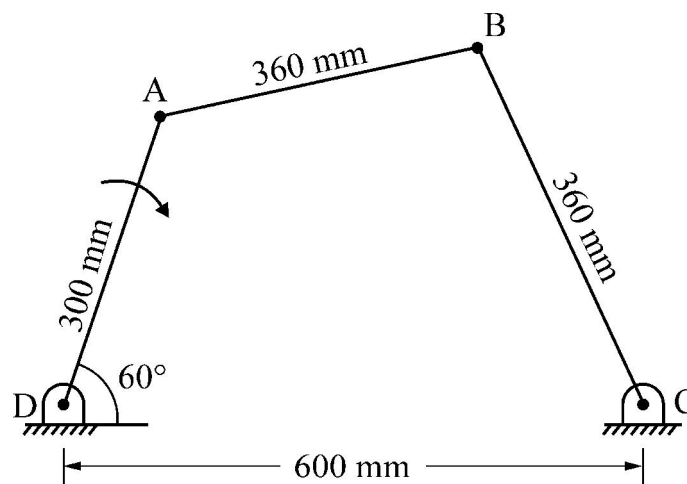

Figure No. 1
- (b) The dimension and configuration of four bar mechanism is shown in the Figure No. 1. The crank is rotating with uniform speed of 100 RPM clockwise. Determine the angular velocity of link BC and absolute velocity of point B.